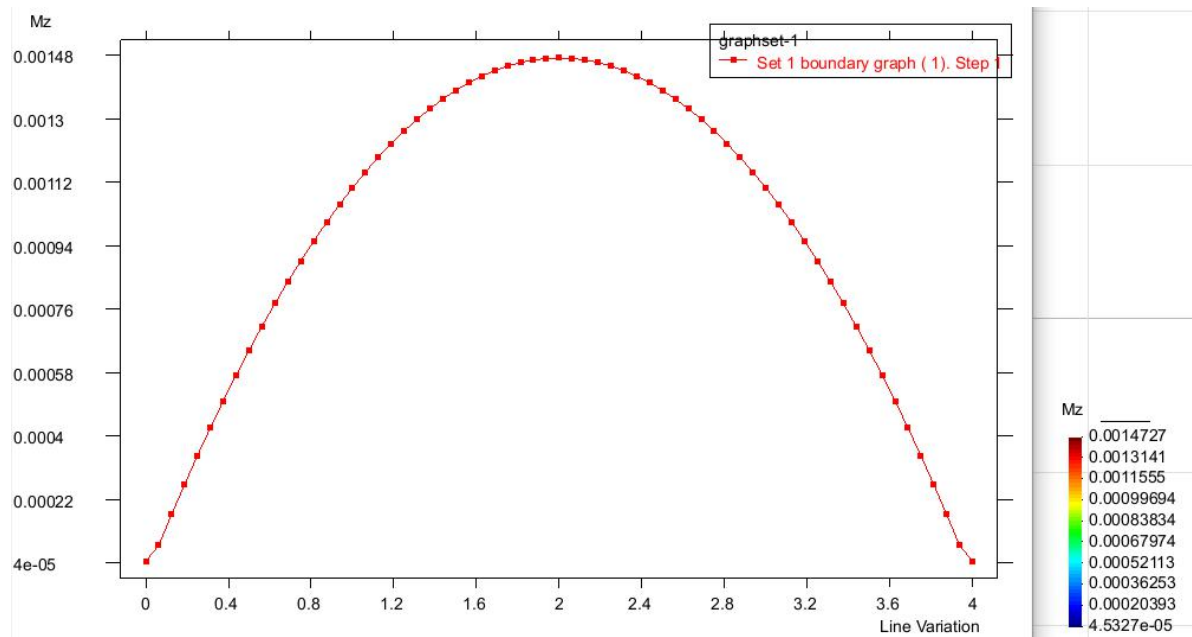
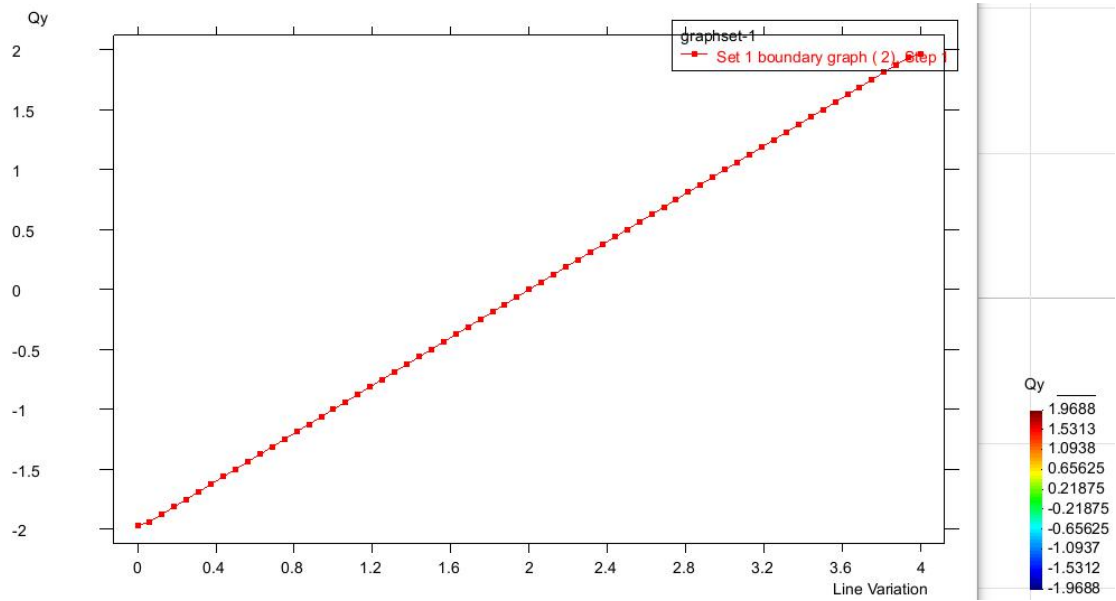

Figure 2.Bending Moment for $a=0.001$
Figure 3. Shear Force for $a=0.001$
- For a=0.001 m, displacement, bending moment and shear force results are shown in Figure 1, Figure 2 and Figure 3.